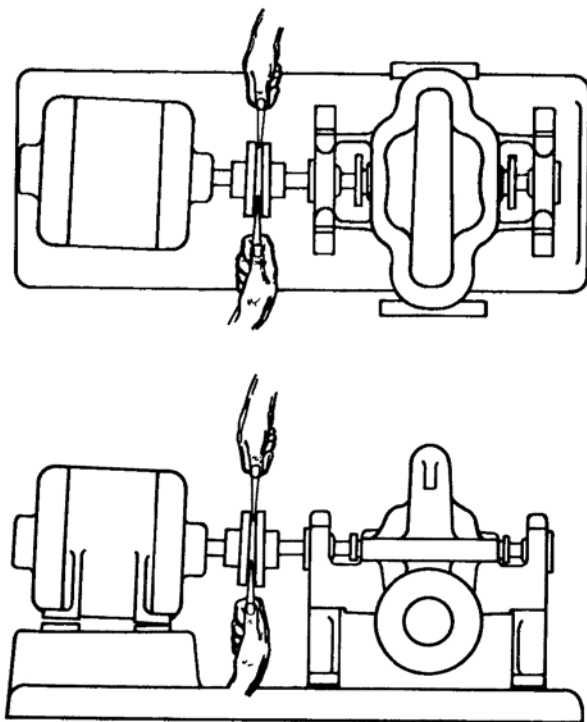

Figure 3:
5. Check angular misalignment - shaft axes concentric but not parallel - by inserting a taper gauge or feeler at four points on the circumference of coupling halves at 90° intervals. See Figure 3: on page 11. The unit will be in angular alignment when the measurements show the coupling faces are the same distance apart at all points. The "gap" between the coupling halves should be checked at this time. This depends on the type of coupling used and this information will be found in the instructions for the specific make of coupling furnished. Adjust angular alignment and "gap" by loosening the driver hold-down bolts and shifting or shimming driver as required. Tighten driver hold-down bolts after angular alignment and correct "gap" are secured.